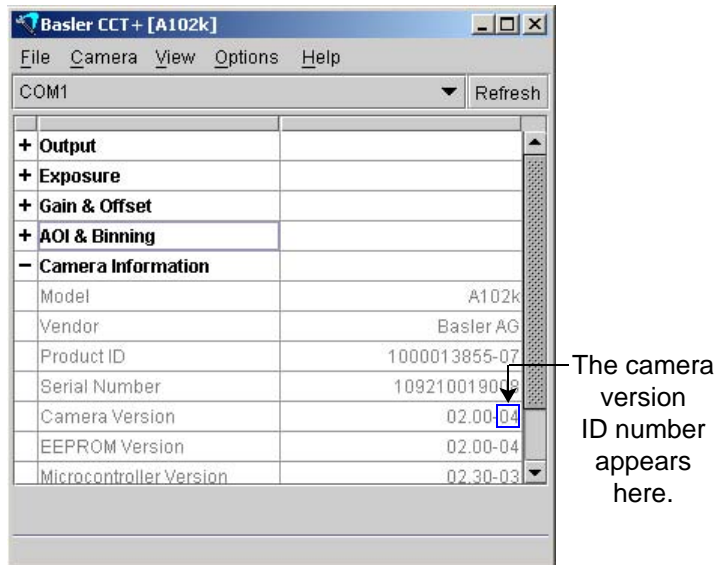

Figure 1-1: CCT+ Window
3. Find the parameter called "Camera Version." As shown in Figure 1-1, the last two numbers of this parameter are the camera version ID number.